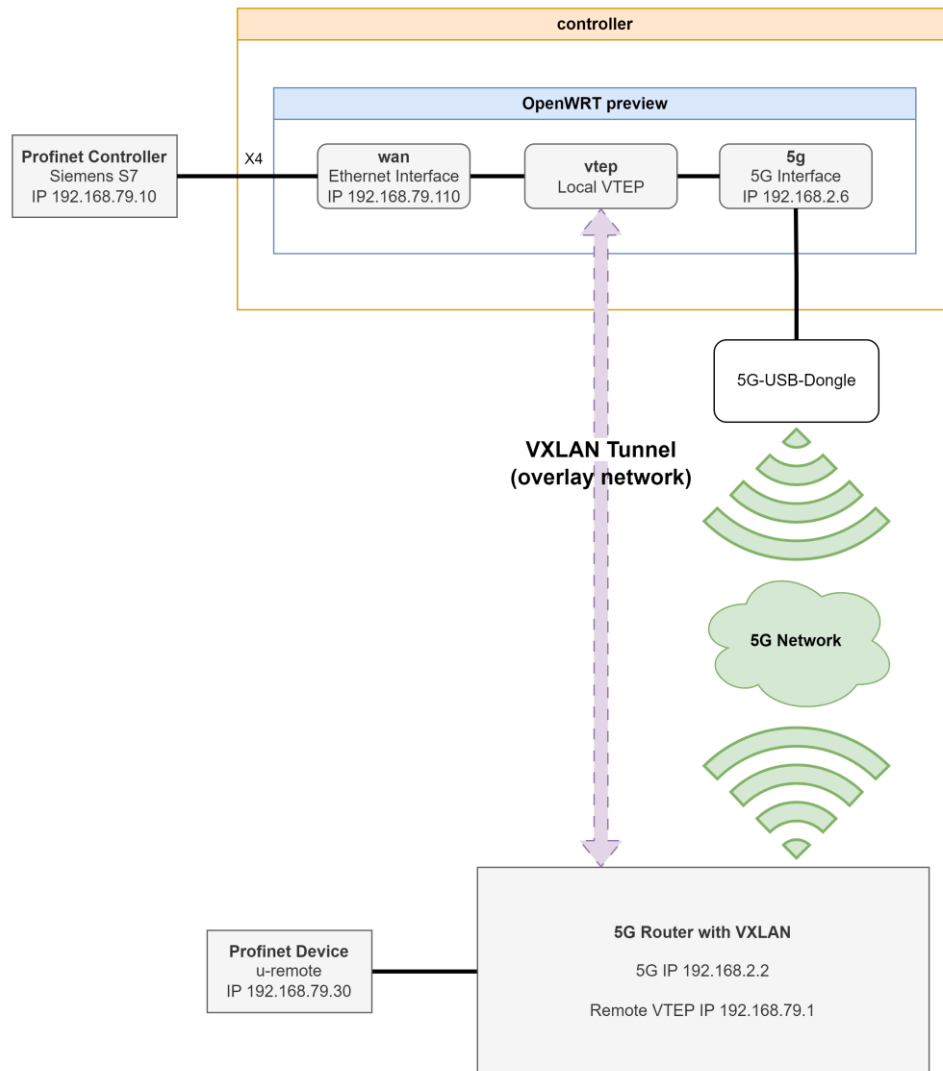

Figure 1: Example setup for the VXLAN tunnel via 5G for Profinet
- ▶ Input the remote VTEP IP address in the field above **IPv4 Ping** such as **192.168.2.2** as mentioned in the Figure 1.
- Setup the **Remote IPv4** address of the remote VTEP such as **192.168.2.2** as mentioned in the Figure 1.
- ▶ Connect an Ethernet port of the controller to the Profinet device or controller such as Ethernet port **X4** as mentioned in the Figure 1.
- ▶ Setup an IP address such as **192.168.79.101** as mentioned in the Figure 1.